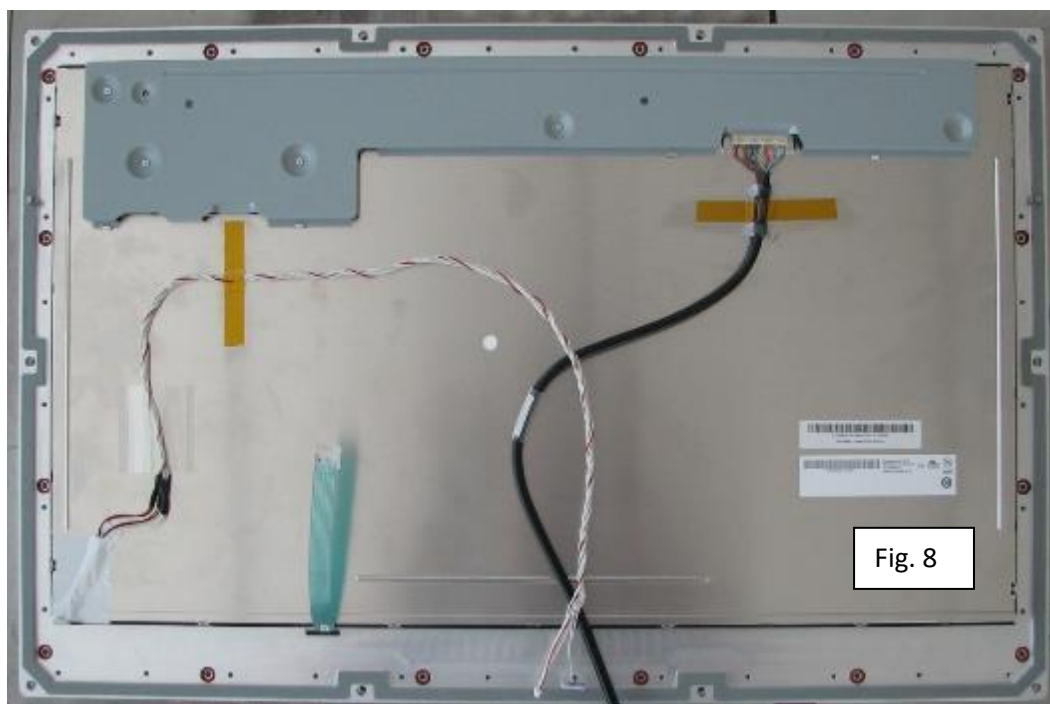

Fig. 8
2.14 Attach the LVDS cable and dress all wiring according to figure 8.
- 2.15 There are sixteen recessed locations that require the O-rings (42EG9654P) inserted before the chassis can be lowered. These are shown in red in position in figure 8.